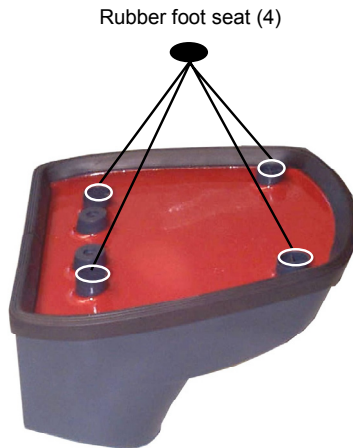

Figure 4 - Rubber Foot Placement
1. Referring to Figure 4, carefully clean the rubber feet seat of the base to remove any impurities that could reduce adhesion.